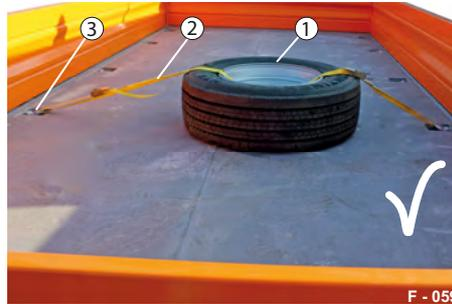

Fig. 85 Spare wheel secured
- ▶ Fasten the spare wheel (Fig. 85/1) on the loading platform to the lashing points (Fig. 85/3) with suitable lashing equipment (Fig. 85/2).